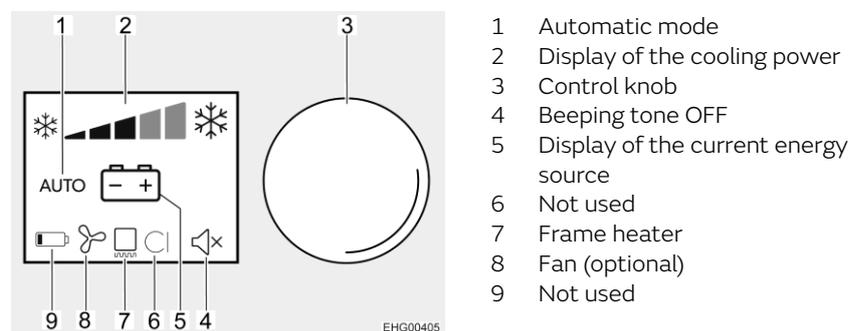

Fig. 145 Display
The operating modes and settings are shown on a display (Fig. 145) between the refrigerator and freezer compartment.
When turned on the first time the refrigerator automatically selects the middle thermostat position. This setting can be adjusted manually via the control knob (Fig. 145,3). The bars (Fig. 145,2) indicate the selected thermostat position. It takes a few hours till the refrigerator reaches its normal operating temperature. When changing over the operating mode the thermostat setting will be maintained. The refrigerating temperature is retained regardless of the type of energy being used.
High external temperatures and high humidity can cause drops of water to form on the metal frame of the freezer compartment. This is why the refrigerator is equipped with a frame heater for the freezer compartment. If the temperature and humidity are high, switch on the frame heater. This prevents corrosion. If the frame heater is switched on, the frame heater symbol (Fig. 145,7) is lit.
- Turn control knob (Fig. 145,3) until the bottom line (adjustment menu) is active.
- Press and hold the control knob (Fig. 145,3) for about 2 seconds. The refrigerator switches on with the settings selected most recently.
- Press and hold the control knob (Fig. 145,3) for about 4 seconds. The refrigerator switches off and no displays are lit.